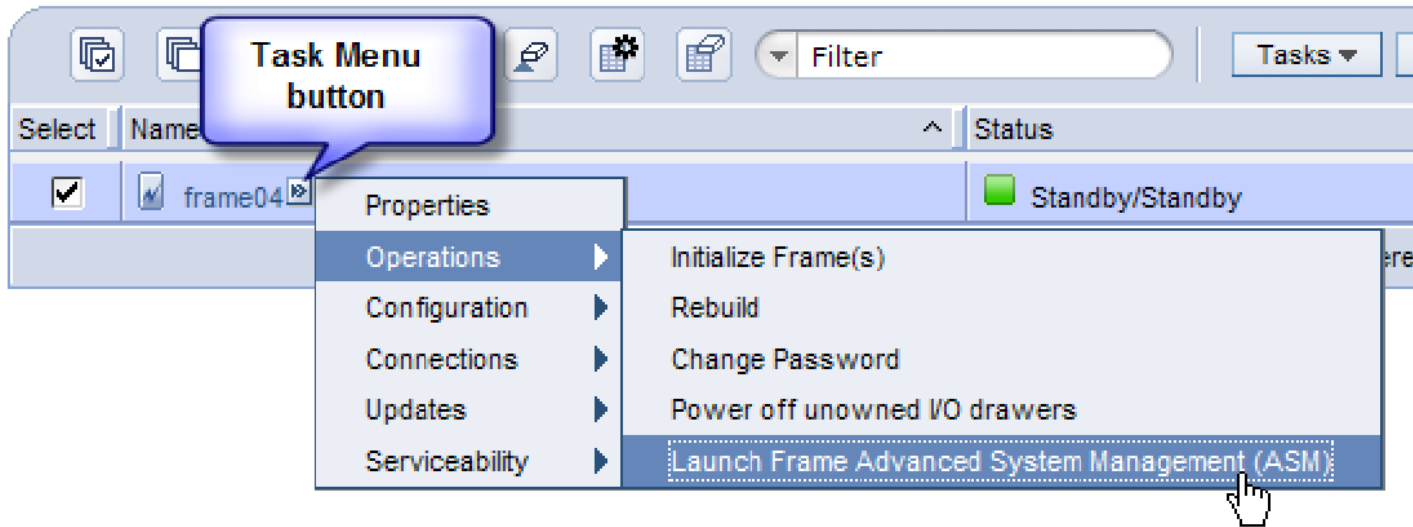

Figure 60 Launch Frame Advanced System Management (ASM)
4. From the Tasks Menu right-arrow pull-down menu, click **Operations → Launch Frame Advanced Systems Management (ASM)** as shown in Figure 60